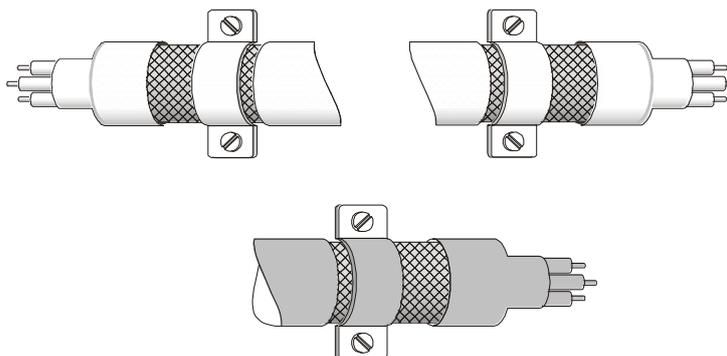

Figure 2
- ☑ The connections between the motor's shielded cable and metal plate must be correct. Use a U-shape metal saddle to fix both ends of the motor cable. See Figure 2 below for correct connections.